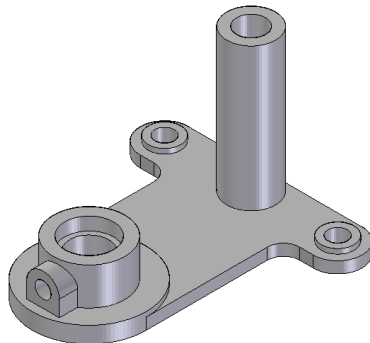

Figure 8-59 Model after adding holes
- c. Add holes to the model, refer to Figure 8-59.
2. Create holes in the model, as shown in Figure 8-59.